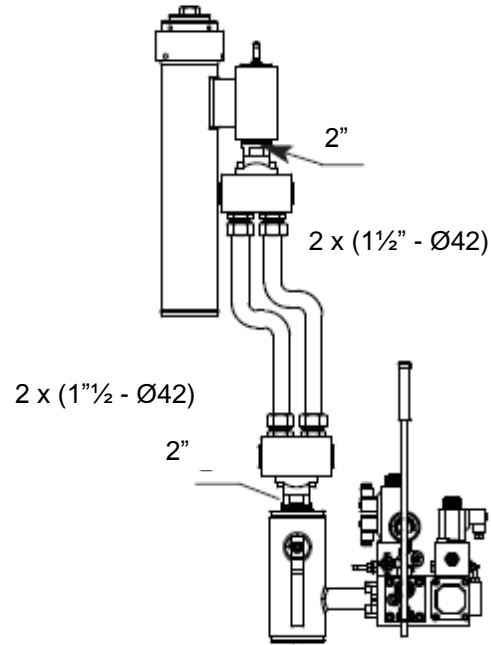

Figure 4 - Connection with two rigid pipes Ø 42
- with two parallel steel pipes, diameter 42 mm and two three-way fittings 1 1/2"x 2" x 1 1/2" (see Figure 4)